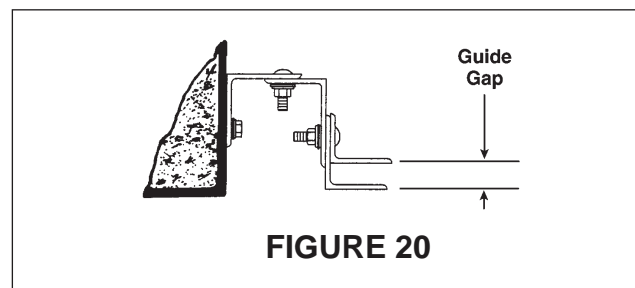

FIGURE 20
- If guides are flared, then bolt the middle angles and the outside angles to the wall angles like Figure 20.